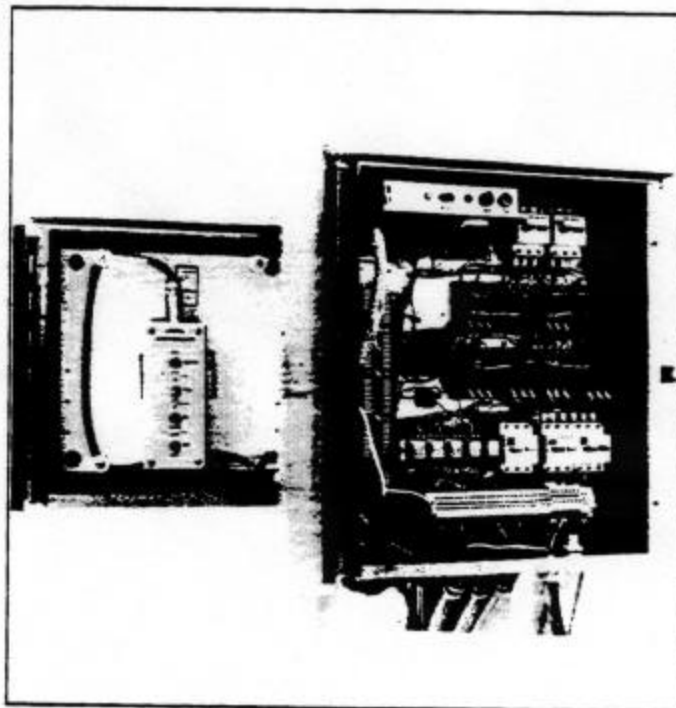

Figure 3-7. Local Control/Motor Drive Controller
3.7 Local Control/Motor Drive Controller. The optional local control/motor drive controller (Figure 3-7) is a NEMA-3R rainproof enclosure installed on the antenna ground mount. It accepts local inputs via the manually operated front panel switches to power the azimuth, elevation and polarization drive motors. The local control/motor drive controller employs manual starter protectors which provide both thermal overload and overcurrent protection for the motors and associated wiring. In the event of a motor overload or short circuit condition, the